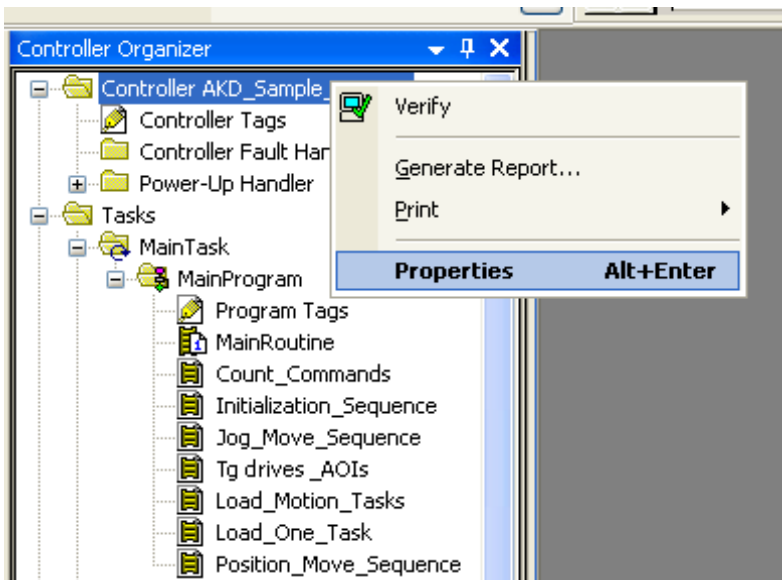

Figure 4-1: Opening Controller Properties
2. You will most likely need to update the controller properties to match your specific installation. Right click on the controller (“AKD_Controller”) at the top of the tree and select “Properties” (Figure 4-1: Opening Controller Properties).